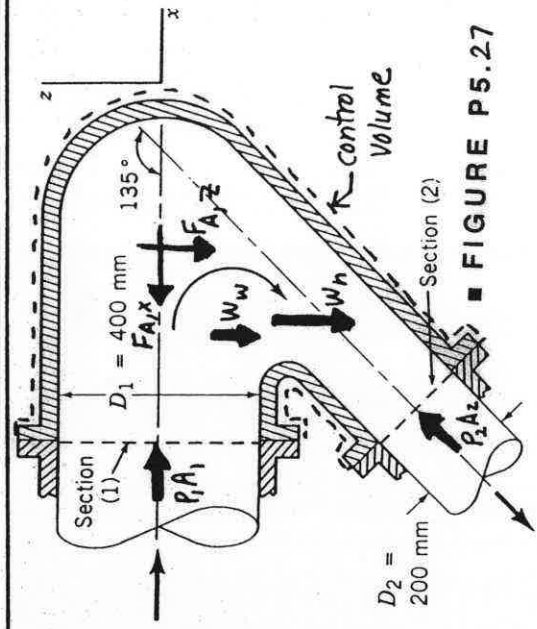

FIGURE P5.2.7
5.27 A converging elbow (see Fig. P5.2.7) turns water through an angle of 135° in a vertical plane. The flow cross section diameter is 400 mm at the elbow inlet, section (1), and 200 mm at the elbow outlet, section (2). The elbow flow passage volume is 0.2 m³ between sections (1) and (2). The water volume flowrate is 0.4 m³/s and the elbow inlet and outlet pressures are 150 kPa and 90 kPa. The elbow mass is 12 kg. Calculate the horizontal (x direction) and vertical (z direction) anchoring forces required to hold the elbow in place.